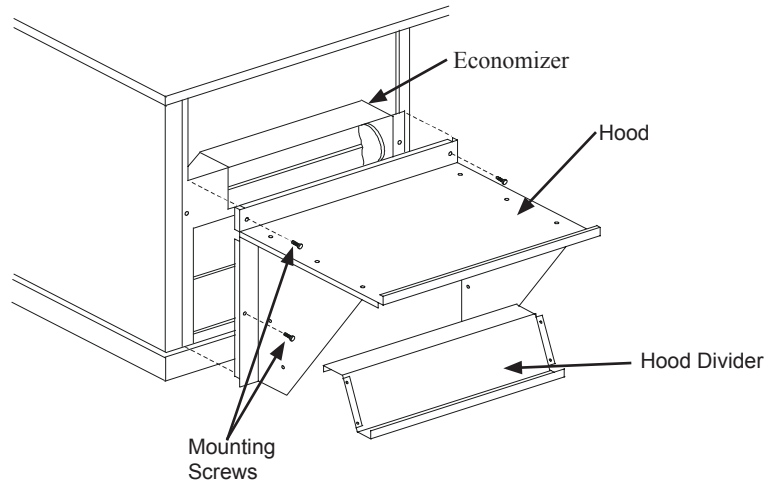

Fig. 8 - Economizer Hood Installation
9. Remove and save the 12-pin jumper plug from the unit wiring harness (located in the upper left corner of the unit). Insert the EconoMiSer2 plug into the unit wiring harness. Refer to Fig. 8 for wiring diagram.
11. Install the economizer hood over the economizer. Use screws provided. (See Fig. 8.)